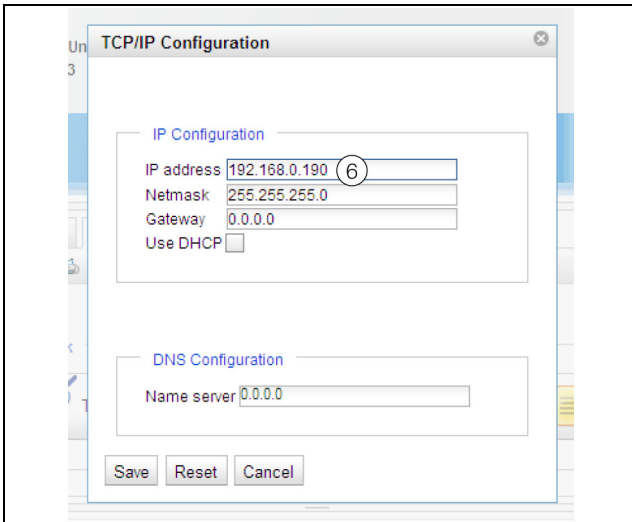

Fig. 14: Customising the TCP/IP settings
- Change the IP address of the device in the **TCP/IP Configuration** window to an address permitted in the network (fig. 14, pos. 6).